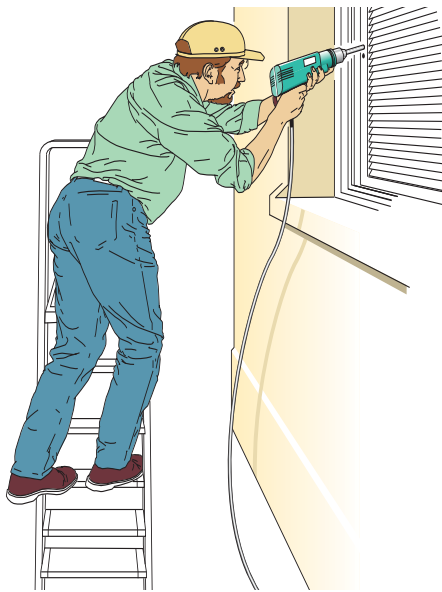

Figure 2a *Incorrect - steps side-on to work activity*
- 9 When working on **stepladders** you should avoid work that imposes a side loading, such as side-on drilling through solid materials (eg bricks or concrete), by having the steps facing the work activity (see Figures 2a and 2b). Where side-on loadings cannot be avoided you should prevent the steps from tipping over, for example by tying the steps to a suitable point. Otherwise a more suitable type of access equipment should be used.